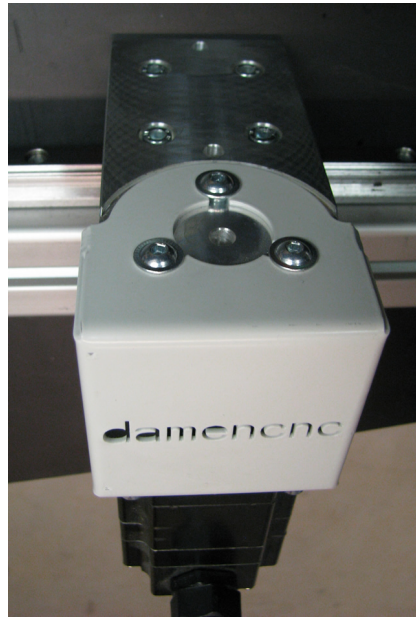

Figure 2.18:
- Mount the DCNC Motor-Flange to the DCNC BeltDrive Slideplate with 3 M5x10 bolts as shown in figure 2.18.